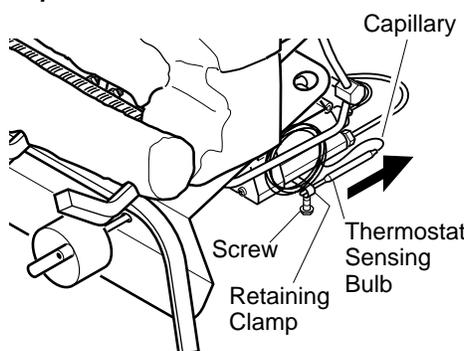

Figure 33 - Removing Thermostat Sensing Bulb
2. With 5/16" hex driver or socket, loosen the thermostat screw. Carefully slide the thermostat sensing bulb out of the retaining clamp (see Figure 33).